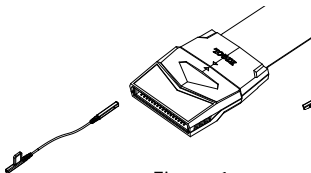

Figure 1
- ◆ Method one: users can connect the signals under test through the probe leads separately. You can easily identify the corresponding channel of each signal by the channel label on the probe leads and the color information on the probe head as shown in Figure 1.